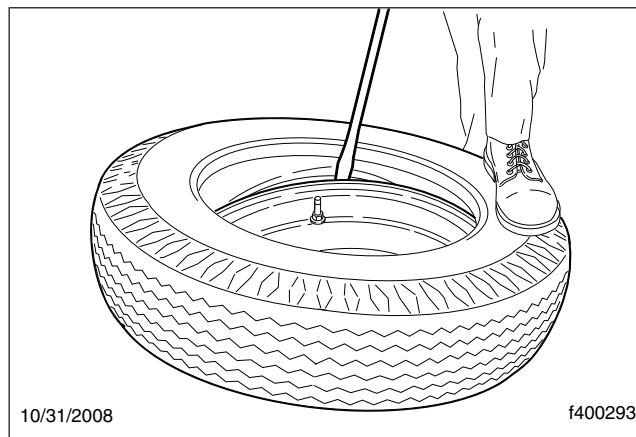

Fig. 10, Working the Lower Bead into the Wheel
- 3.3 Using the straight end of the tire tool, with the stop resting on the wheel flange, work small sections until the remaining bead slips into the wheel. See Fig. 10.